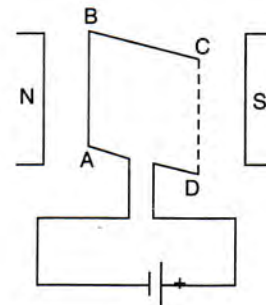

Fig. 10.27
2. Fig. 10.27 shows a rectangular coil ABCD placed in between the pole pieces of a horse-shoe magnet with its plane perpendicular to the magnetic field. A battery is connected between the ends A and D of the coil.
- (i) In Fig. 10.27, the current in coil is in direction DCBA.